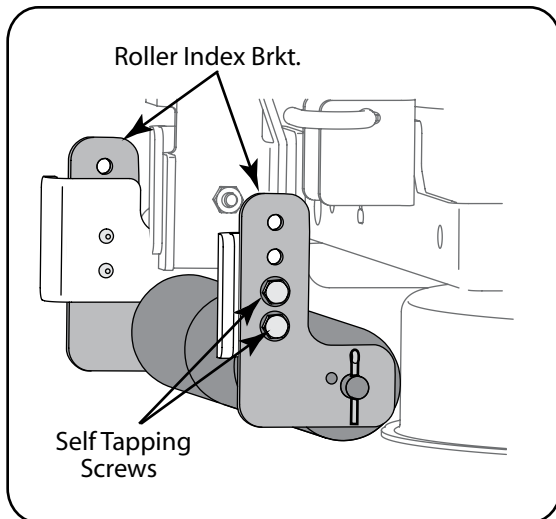

Figure 6-9
- Position the roller assembly so that the rollers are approximately 1/4" to 1/2" above the flat surface below. Align the nearest two index bracket holes with holes in the deck mounting brackets. See Figure 6-9.
- Secure the roller assembly with the four self tapping screws. Refer to Figure 6-9.